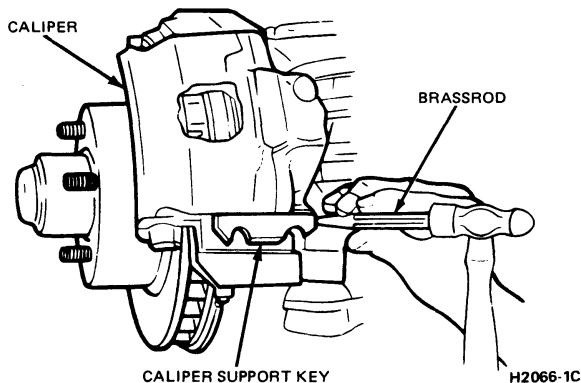

FIG. 17 Removing Caliper Support Spring and Key
5. Using a brass rod and light hammer, drive out the caliper support key and caliper support spring (Fig. 17). It is not necessary to disconnect the hydraulic line to the caliper.
4. Using a brass rod and light hammer, drive out the key and spring, (Fig. 17).
2. Position the key and spring, (Fig. 14), and hand start the subassembly between the caliper and support. Note that the spring is between the key and caliper and that the spring tangs overlap the ends of the key, (Fig. 17). Use a brake adjusting tool or screwdriver to hold up the caliper, if required, against the support assembly.